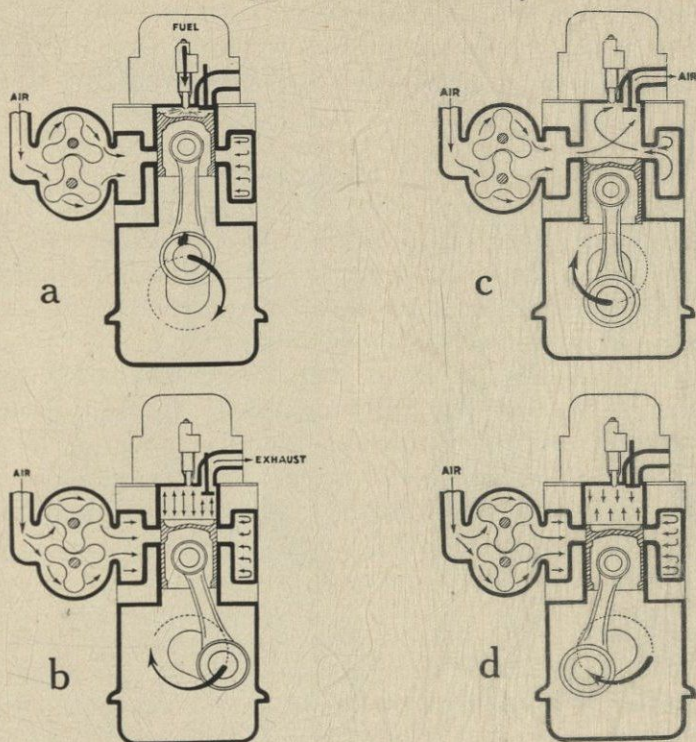

Fig. 17
**37.** Figure 17 illustrates the cycle of events which take place during a down and an upstroke of the piston